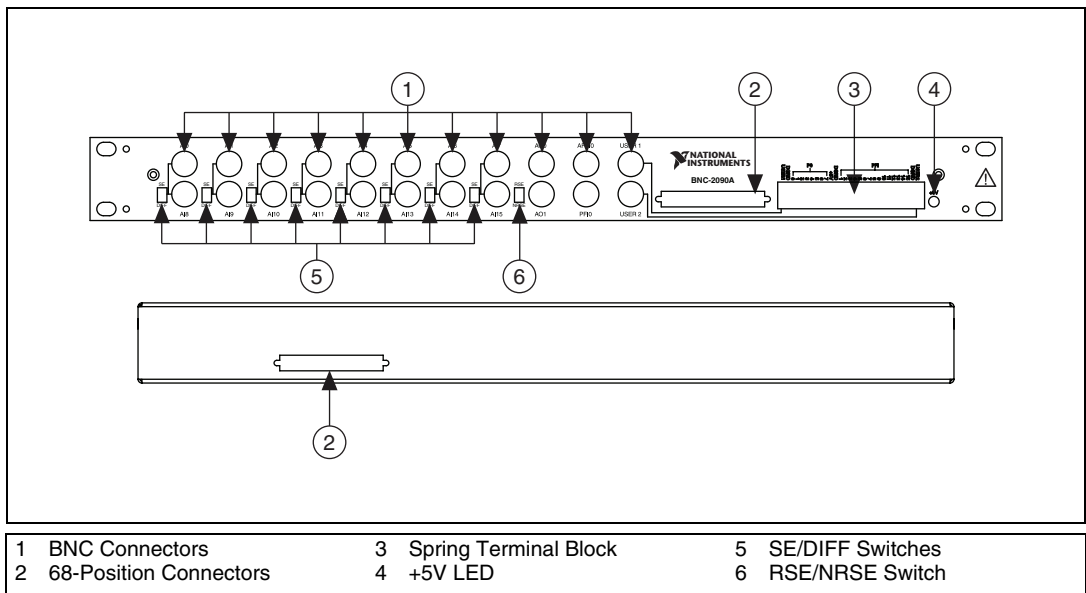

Figure 1. BNC-2090A Front Panel and Back of Enclosure
Figure 1 shows the BNC-2090A front panel and enclosure back.
2. Connect the BNC-2090A to the DAQ device using the front or rear 68-position connector, shown in Figure 1. Refer to Table 1 to verify that you have the appropriate cable for your DAQ device.